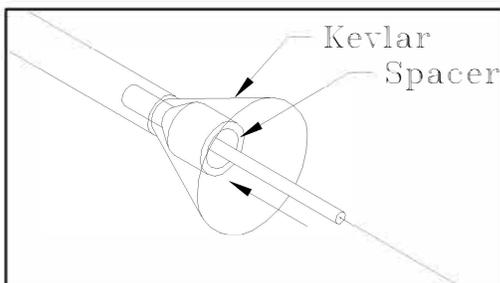

Fig 3
Step 3 Insert the Spacer carefully into the buffer of cable and push the Spacer all the way until it is stopped by the jacket, shown in Fig. 3.